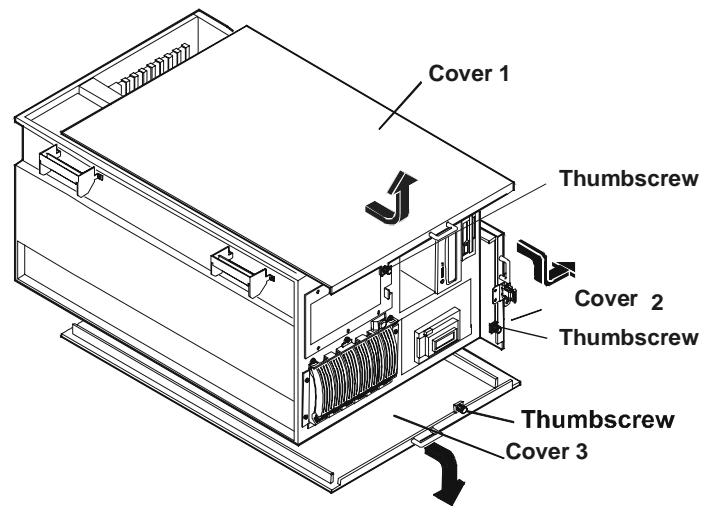

Figure 3-7. HP NetServer LH 3000r Covers
7. Remove Cover 1 by loosening the thumbscrew and sliding the cover forward to disengage it. Lift it up and away from the chassis. See Figure 3-7.
8. Remove Cover 2 by supporting it with your hand, then loosening the thumbscrew and pulling the cover forward to disengage it. Lift it away from the chassis (see Figure 3-7).